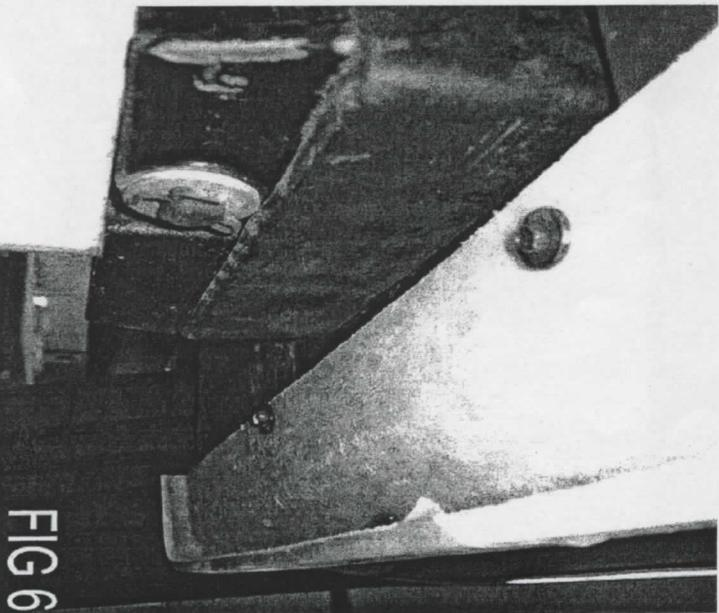

FIG 6
7. USING THE 7 HIGH/LOW SCREWS SUPPLIED IN KIT AS WELL AS THE 2 FACTORY SCREWS, ATTACH SKIRT TO CAR. **NOTE:** DO NOT TIGHTEN SCREWS UNTIL ALL 9 SCREWS ARE STARTED. **CAUTION:** BE CAREFUL NOT TO OVER TIGHTEN SCREWS. **(FIG.6)**